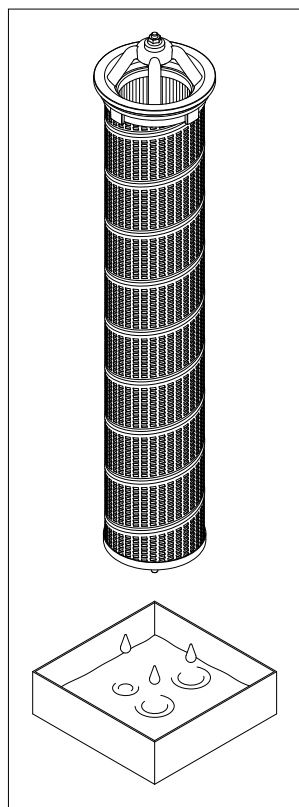

fig. 7
- (Fig. 7) Empty the operating fluid from the internal filter into the collection vessel